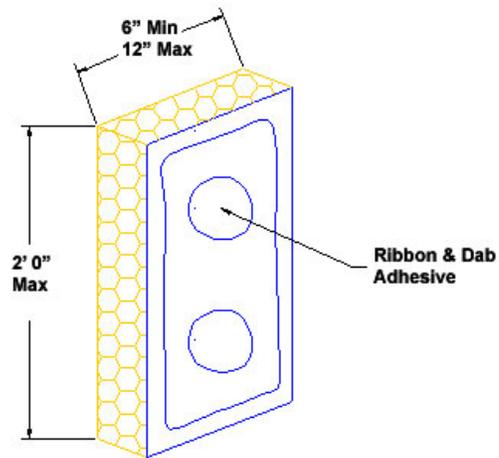
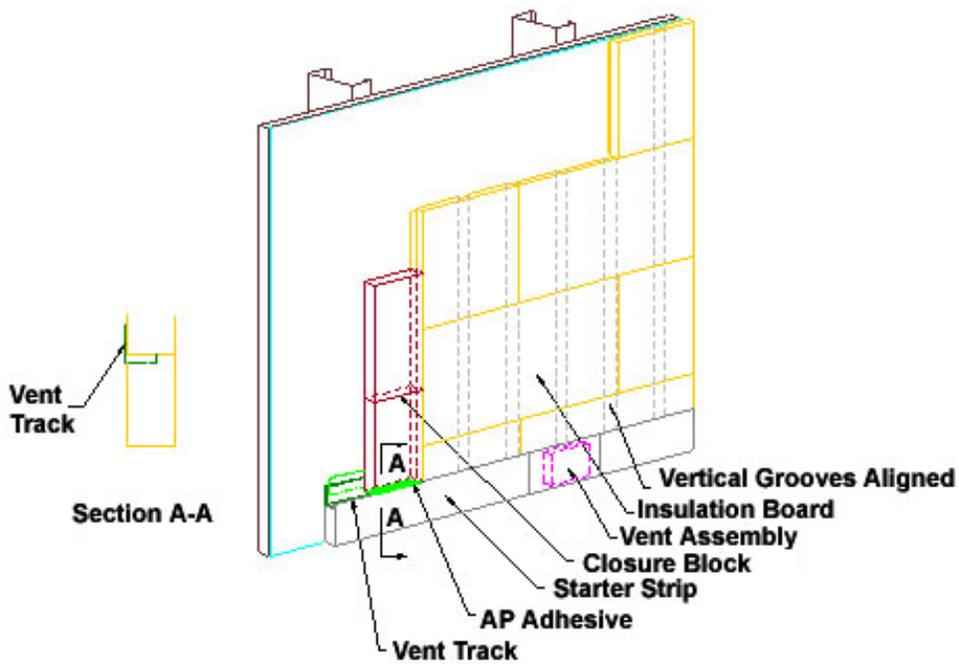

Fig. 20
Fig. 21
- b. Apply the Dryvit Adhesive mixture to the back of the Closure Blocks using a ribbon and dab adhesive pattern as shown in Figure 20 and position along the compartment separation line as shown in Figure 21.